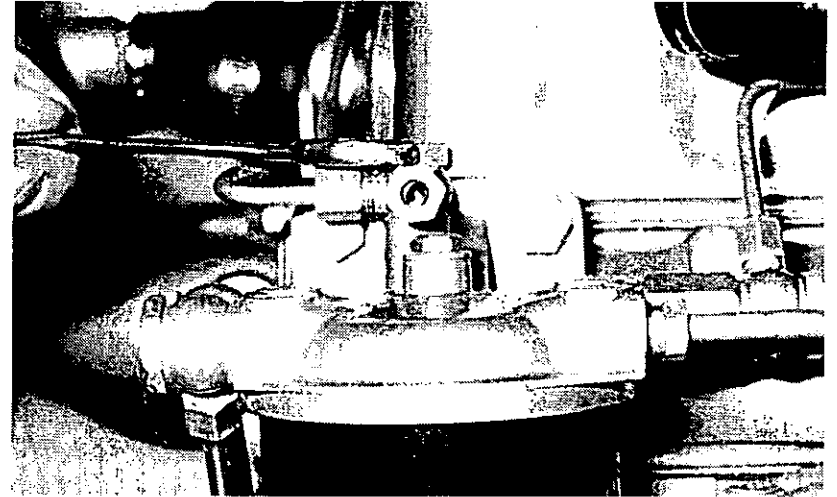

Fig. 14 Vent screw on fuel filter
- 1 Loosen the banjo connection bolt which is fitted on the top of the filter (see fig. 14).